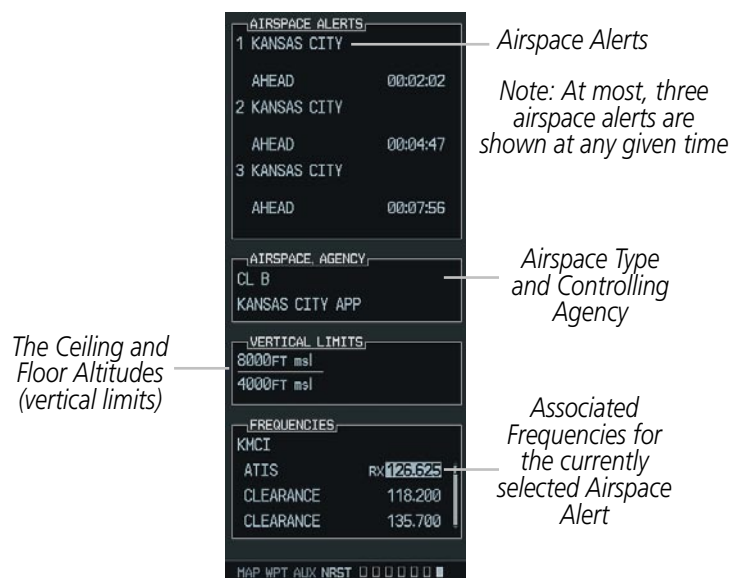

Figure 5-57 Nearest Airspaces Window
- 2) Press the **ALERTS** Softkey to place the cursor in the 'AIRSPACE ALERTS' box (Figure 5-57).